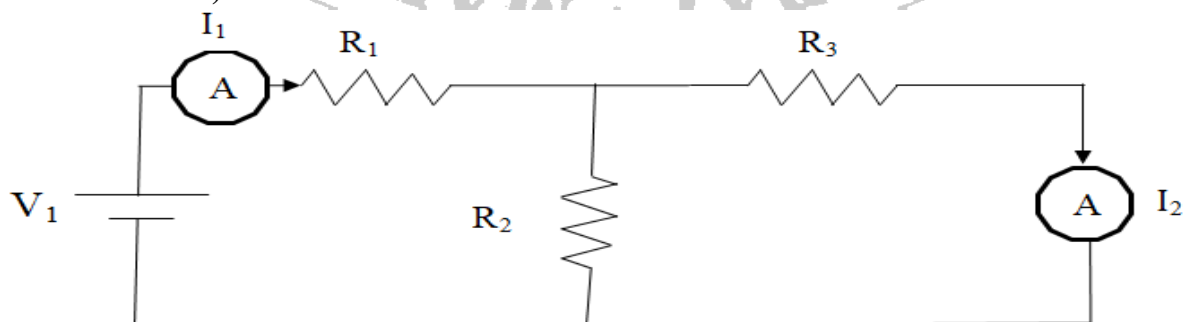

Fig 13.2 Sample circuit- case 1
1. Connect the circuit on breadboard as shown in figure 13.2